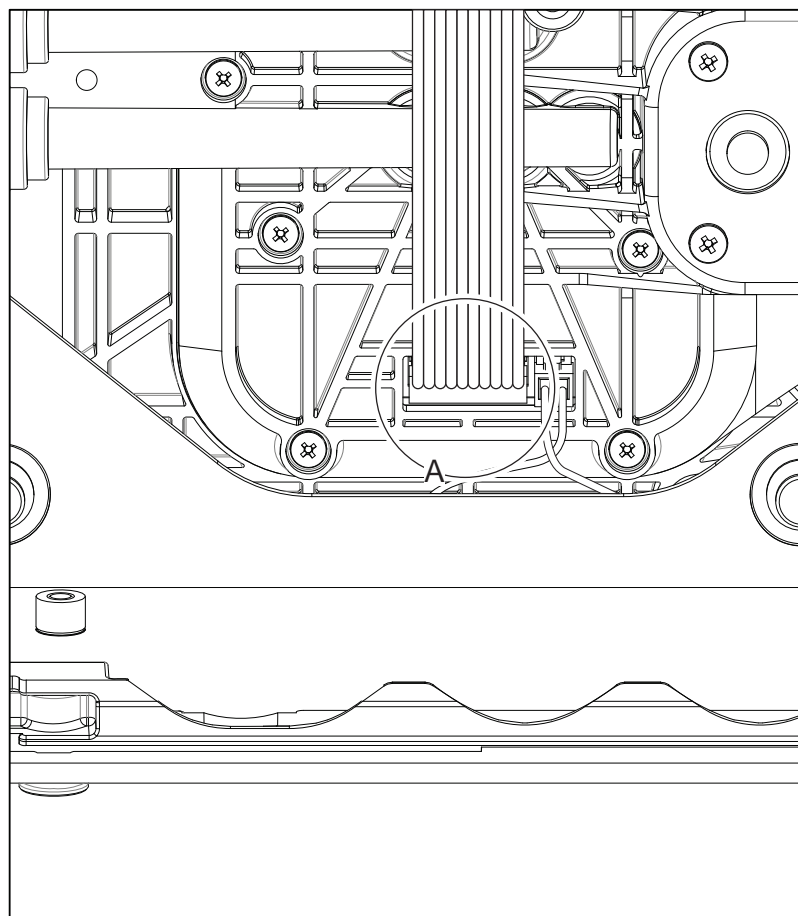

Figure 7-12: Remove cable
- Remove the data cable from the Reverser (A) (Figure 7-12).